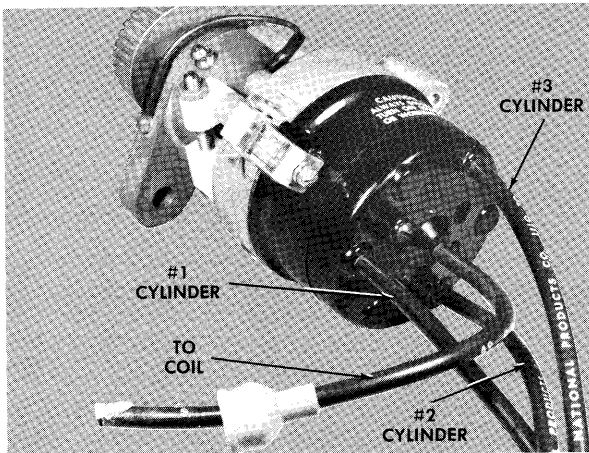

Figure 3 – 3-Cylinder Engines
- G. Route spark plug lead wires to respective spark plugs. See figures 3 and 4 for identification of lead wires.